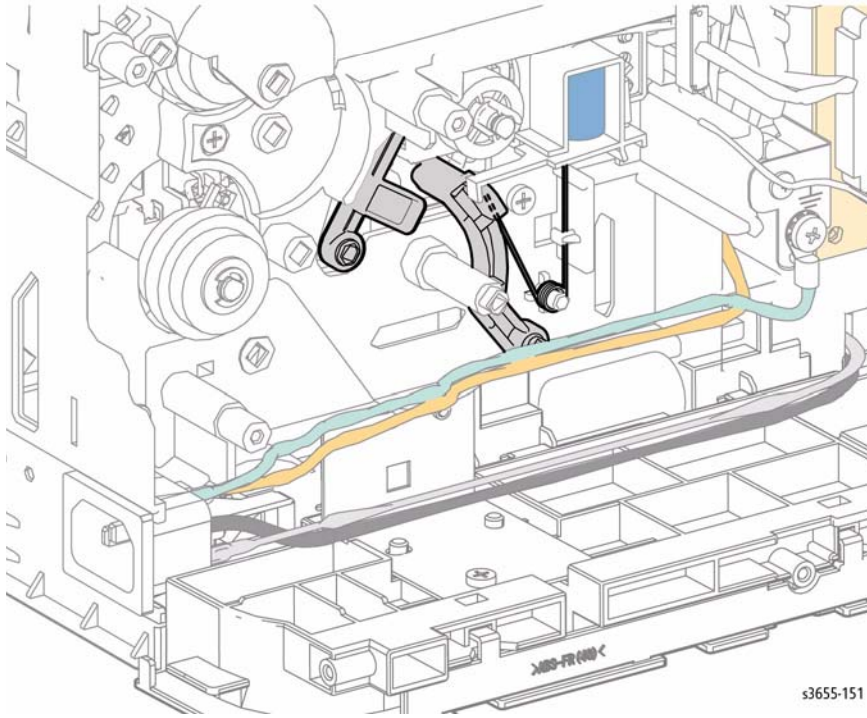

Figure 8 Install the Lifter Arm and Spring
3. Refer to Figure 8 to properly install the feed spring to the MSI lifter arm.